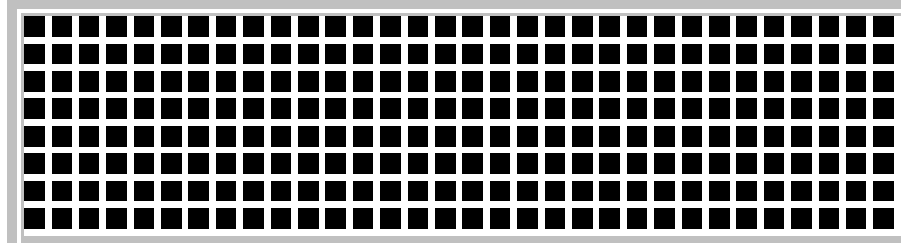

Fig 14-5
- Dot Matrix Mode. To simulate dot matrix type LCD panels. Fig 14-5 shows the dot matrix screen.